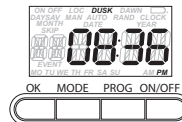

Fig. 6
17. Turn the knob to adjust the Dusk Time, (Fig. 6) if necessary and press **OK**. Display shows **MAN**, and Time of Day.